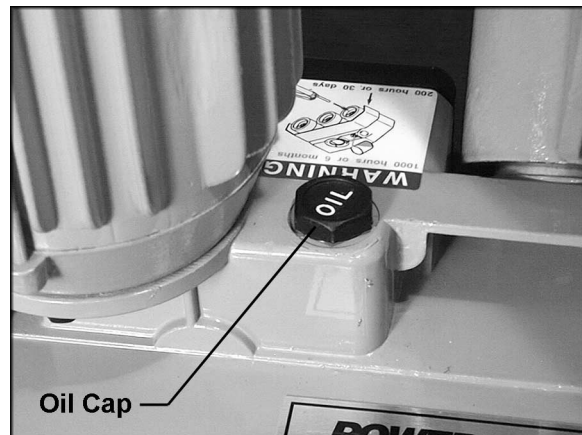

Figure 22
3. Unscrew and remove the oil cap (identified in Figure 22) and turn the feeder body upside down to completely drain the oil. (NOTE: Always dispose of used oil properly.)
5. Re-install the oil cap (Figure 22).